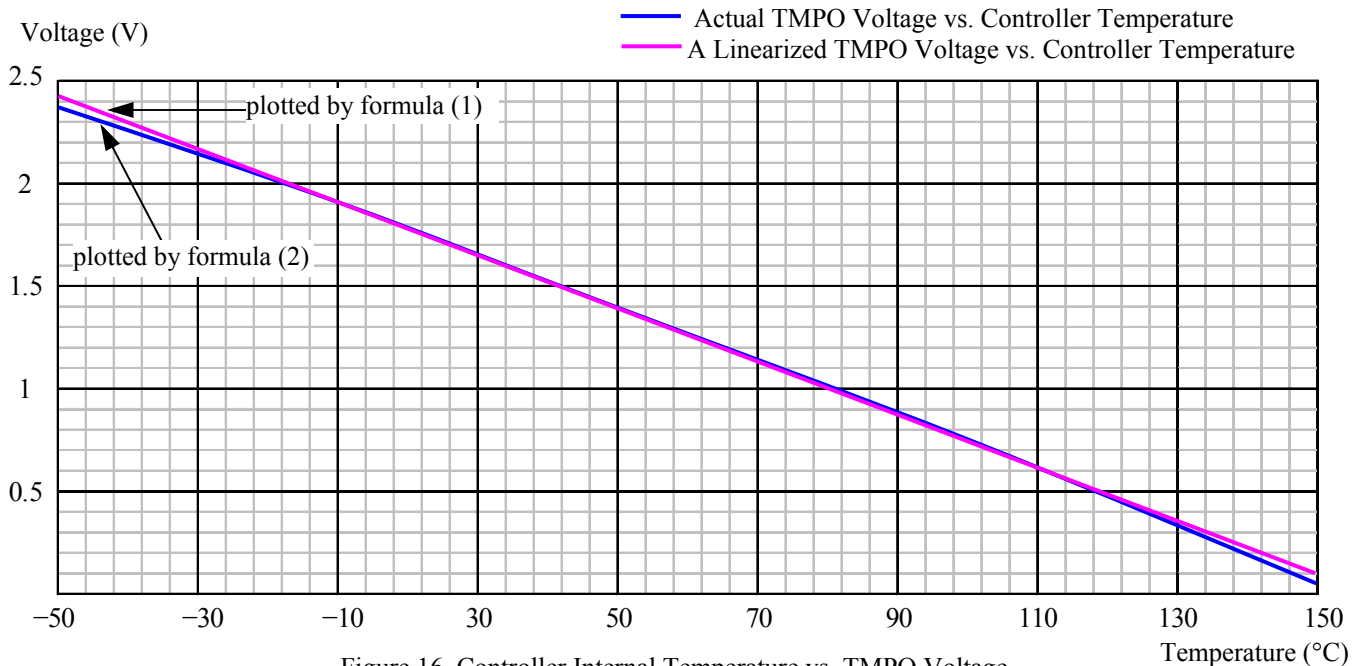

Figure 16. Controller Internal Temperature vs. TMPO Voltage
Within the most commonly used temperature range of between 0°C to 100°C, the maximum error occurs at about 1.5V, at which the temperature error between the calculated data by using the formula (1) and the approximated data obtained by using the linear equation (2) is about 0.4°C, with the linear data being a little lower. The curves of the 2 sets of the data are plotted in Figure 16.
The schematic is shown in Figure 16, where Power Supply 1 is the power supply for the laser driver, Power Supply 2 is for increasing the laser driver's maximum output voltage.